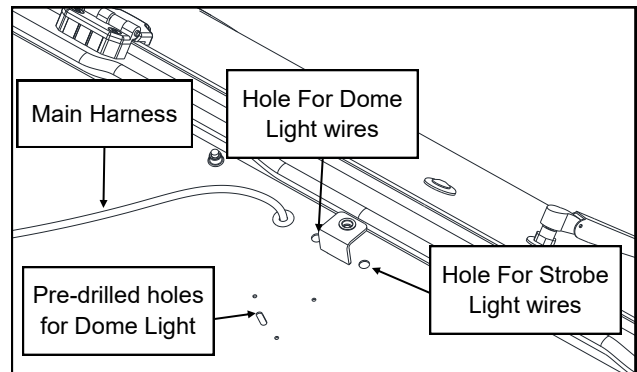

Fig. 2.1
- 2.1 Locate the holes at the center-front of the metal roof pan for the dome light. Poke through the roof headliner from underneath with a small screwdriver or awl. See figure 2.1.